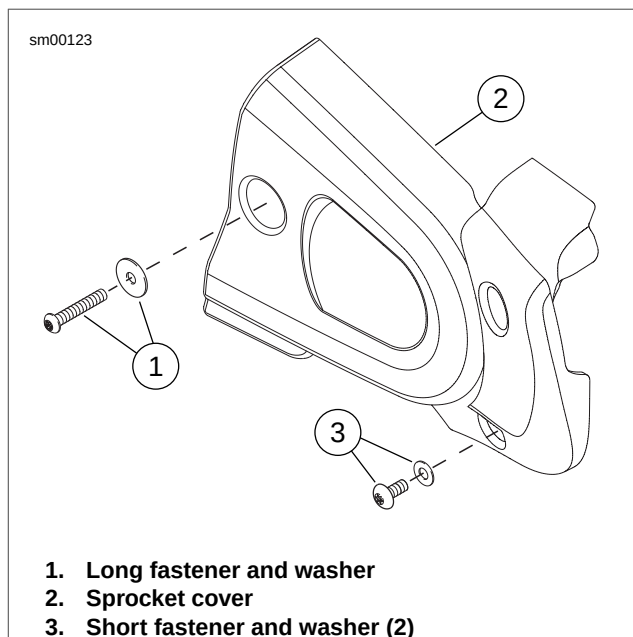

Figure 6-40. Sprocket Cover
6. See Figure 6-40. Remove sprocket cover (2) by removing fasteners. See 2.38 SPROCKET COVER.